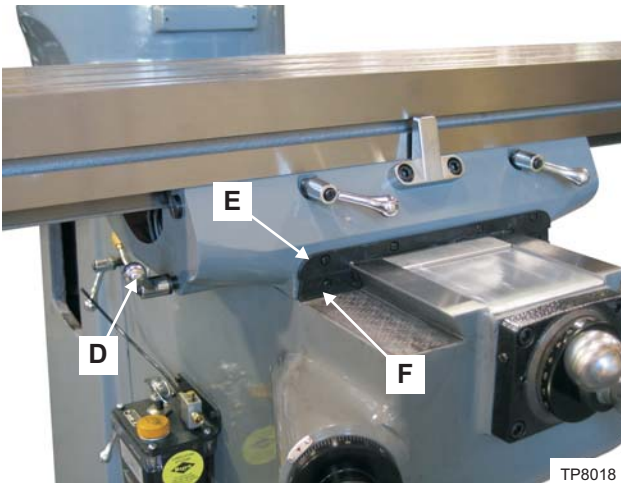
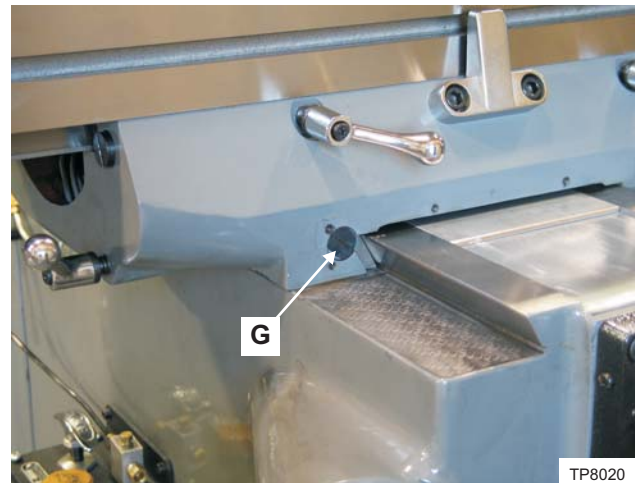

Figure 3.12 - Front Saddle Wiper and Retainer
Figure 3.13 - Front Saddle Gib Adjustment Screw
1. Loosen saddle clamp "D", Figure 3.12.
3. Remove wiper retainer "E" and wiper "F", Figure 3.12, to gain access to front gib screw "G", Figure 3.13.